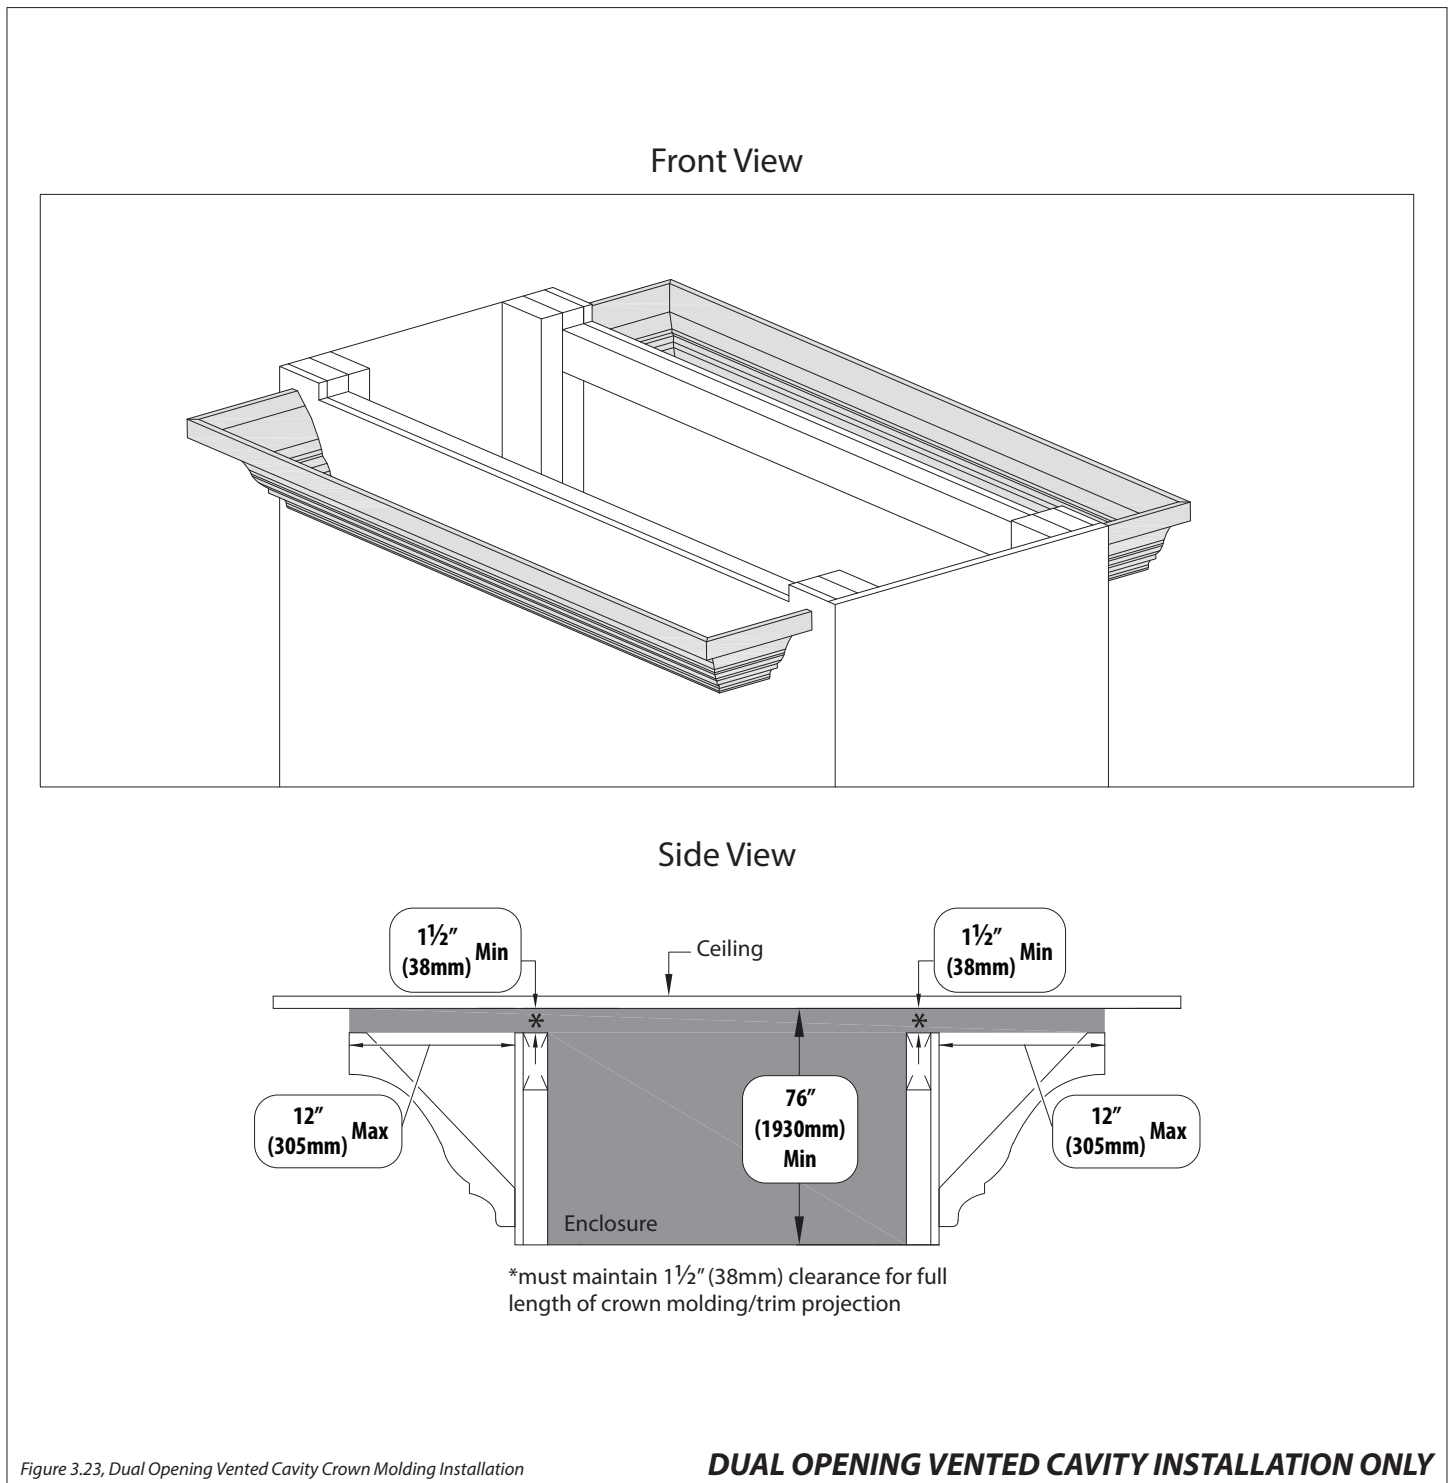

Figure 3.23, Dual Opening Vented Cavity Crown Molding Installation
- Figure 3.23 shows the installation of crown molding or similar trim work that goes up to the edge of the air discharge openings. 12" (305mm) is the maximum length of the molding or trim projection and you must maintain 1-1/2" (38mm) clearance for the full length of crown molding/trim projection. This molding or trim cannot decrease the minimum opening requirements.